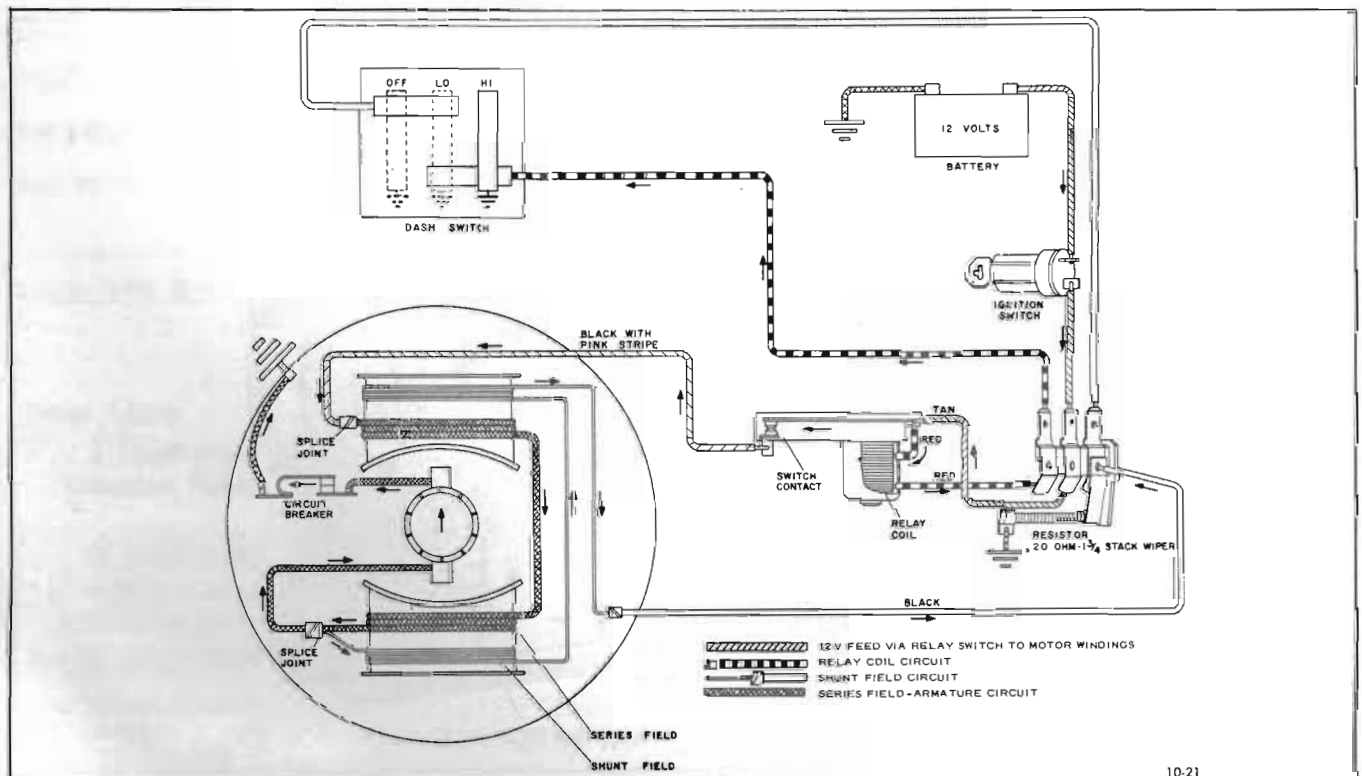

Figure 10-21—Wiring Diagram - High Speed Operation
**3. Wiper On High Speed.** Turning the wiper dash switch to the high speed position opens the shunt field circuit to ground at the dash switch. However, the shunt field circuit is then completed to ground through the resistor located on the wiper terminal board. See Figure 10-21.